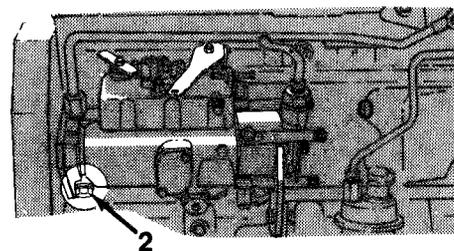

Figure 7-4
14. Loosen injection pump driveshaft lockscrew (2, Figure 7-4).